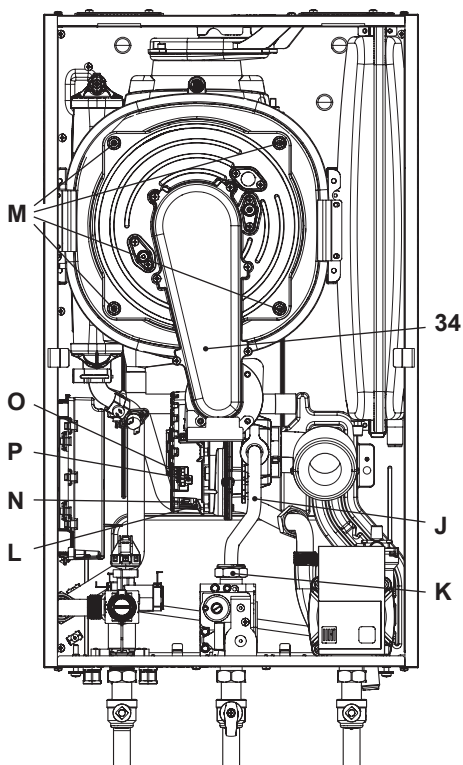

Fig. 10.9
Removing the fan burner unit 34 in Fig. 10.9.
- Insert a flat screwdriver in the connector recess **L** and lever towards the bottom, disconnect the connector at the same time **N** by pulling towards the front **N** (Fig. 10.9).
- Disconnect the fan connector **O** by pressing the plastic hook **P** positioned at the bottom part of the connector (Fig. 10.9).
- Unscrew screws **M** and remove the fan burner unit 34 (Fig. 10.9)